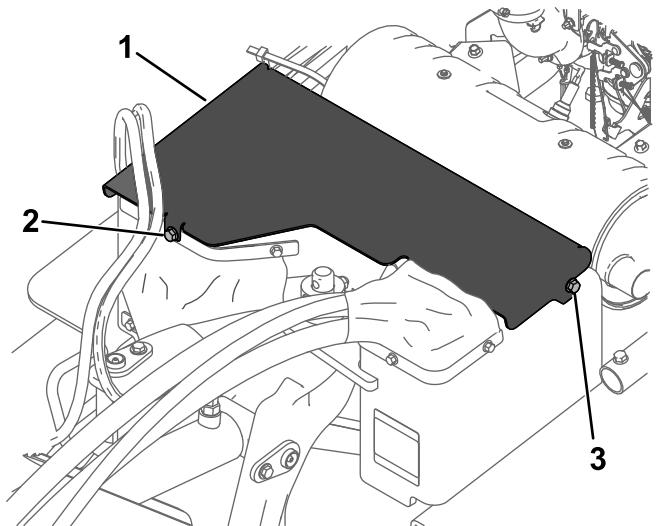

Figure 24
- Remove the front bolt and loose then left bolt securing the front cover to the machine (Figure 24).
- Slide the cover forward slightly and pull up to remove the cover (Figure 24).
- To install the front cover, slide the front cover into place and secure it with the 2 bolts (Figure 24).